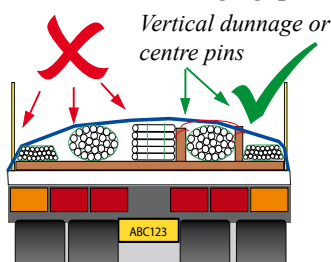

Figure 5.4: Products loaded with gaps should be spaced with vertical dunnage.
- Use vertical dunnage (or centre pins) where pack spacing is required (see Figure 5.4).